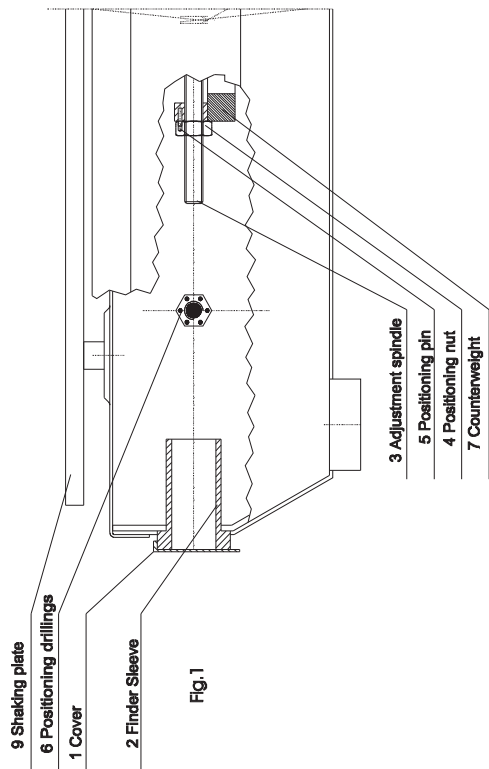

Fig. 1
- For changing the counterweight (7) the adjustment spindle (3) must be positioned exactly in the direction of the finder sleeve (2) (see fig. 1). Switch the shaker off, turn the shaking plate (9) by hand into the furthest position at the right, then the adjustment spindle (3) and the counterweight (7) are at the left side in the direction of the finder sleeve (2). Control the position of the adjustment spindle (remove the cover (1), and look through the finder sleeve).